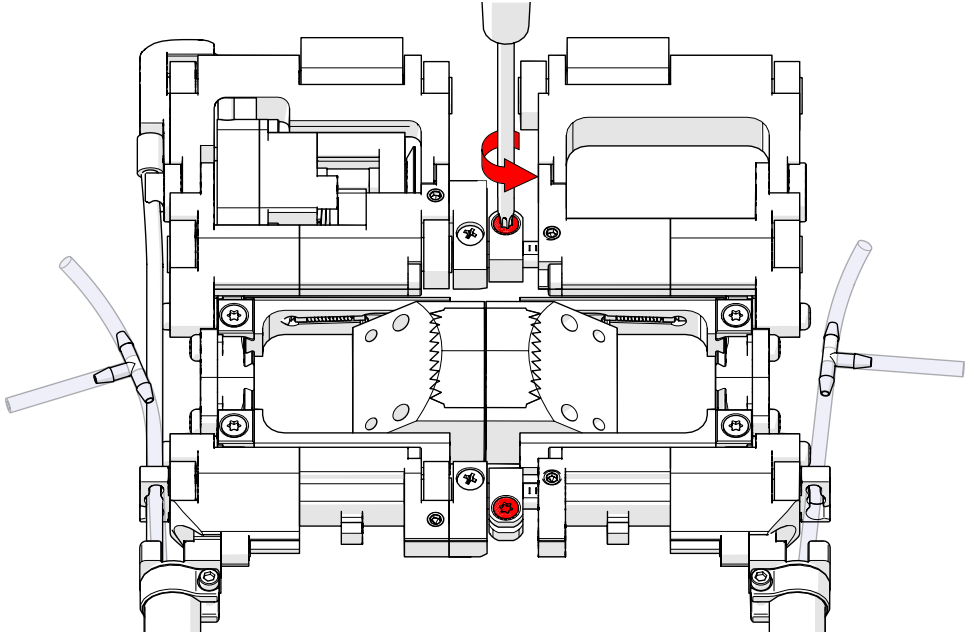

Fig. 73 - Loosen the pivot adjustment screws
4. Use the supplied Torx® driver to loosen the both wedge separation indicator clamp screws (Fig. 73).